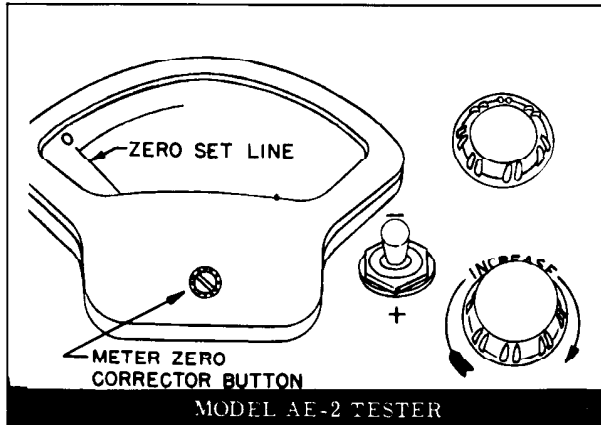

Fig. 13-100 Setting Zero Corrector
- Turn Zero Corrector on face of tester until meter pointer is on zero set line. (Fig. 13-100)